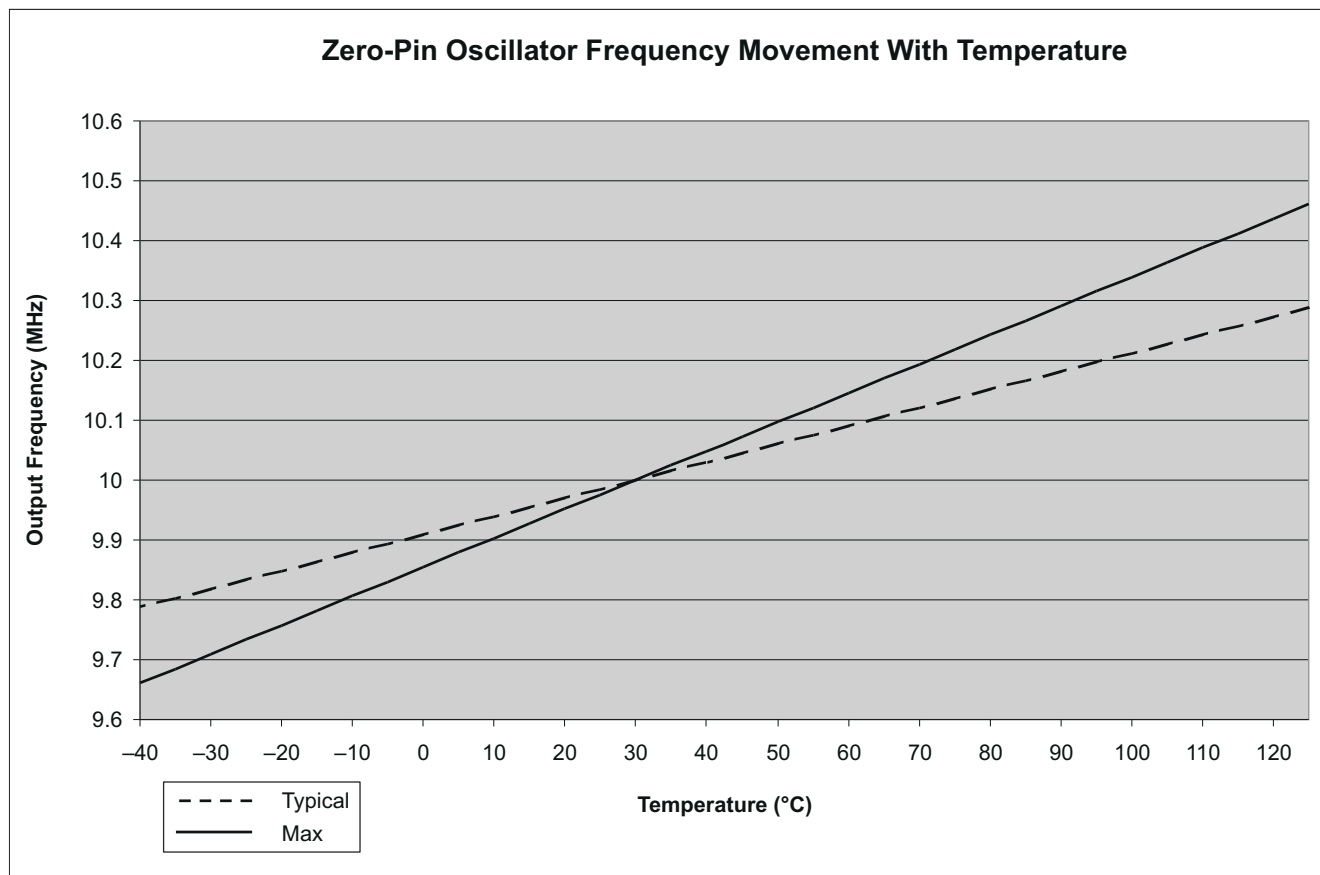

**Figure 6-9. Zero-Pin Oscillator Frequency Movement With Temperature**
- (1) Oscillator frequency will vary over temperature, see Figure 6-9. To compensate for oscillator temperature drift, see the Oscillator Compensation Guide and C2000Ware.
- (2) Frequency range ensured only when VREG is enabled,  $\overline{\text{VREGENZ}} = V_{\text{SS}}$ .
- (3) Output frequency of the internal oscillators follows the direction of both the temperature gradient and voltage (VDD) gradient. For example: